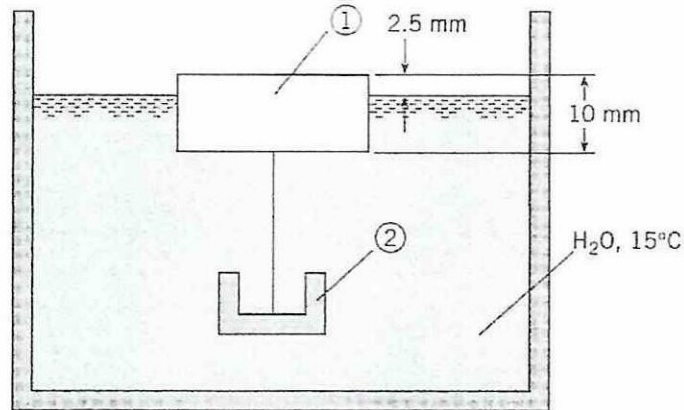

Figure Q2.2
- (b) The **Figure Q2.2** shows a metal part (object 2) hanging by a thin cord from a floating wood object (object 1). The wood block has a specific gravity  $SG_1 = 0.3$  and dimensions of 50 mm x 50 mm x 10 mm. The metal part has a volume of  $6600\text{mm}^3$ . Determine the weight,  $W$  of the metal part and the tension  $T$  in the cord.